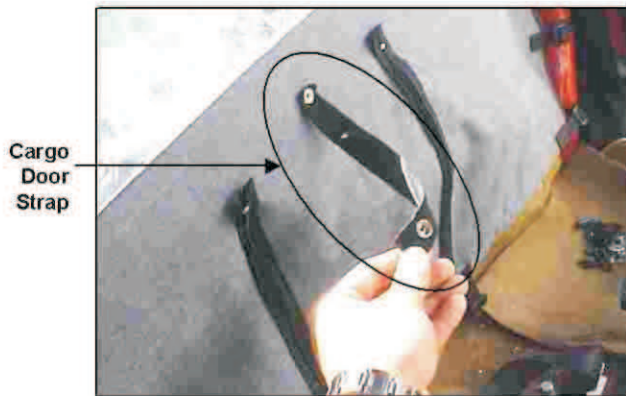

Figure 25
1. Locate the Cargo Door Strap (Figure 25).